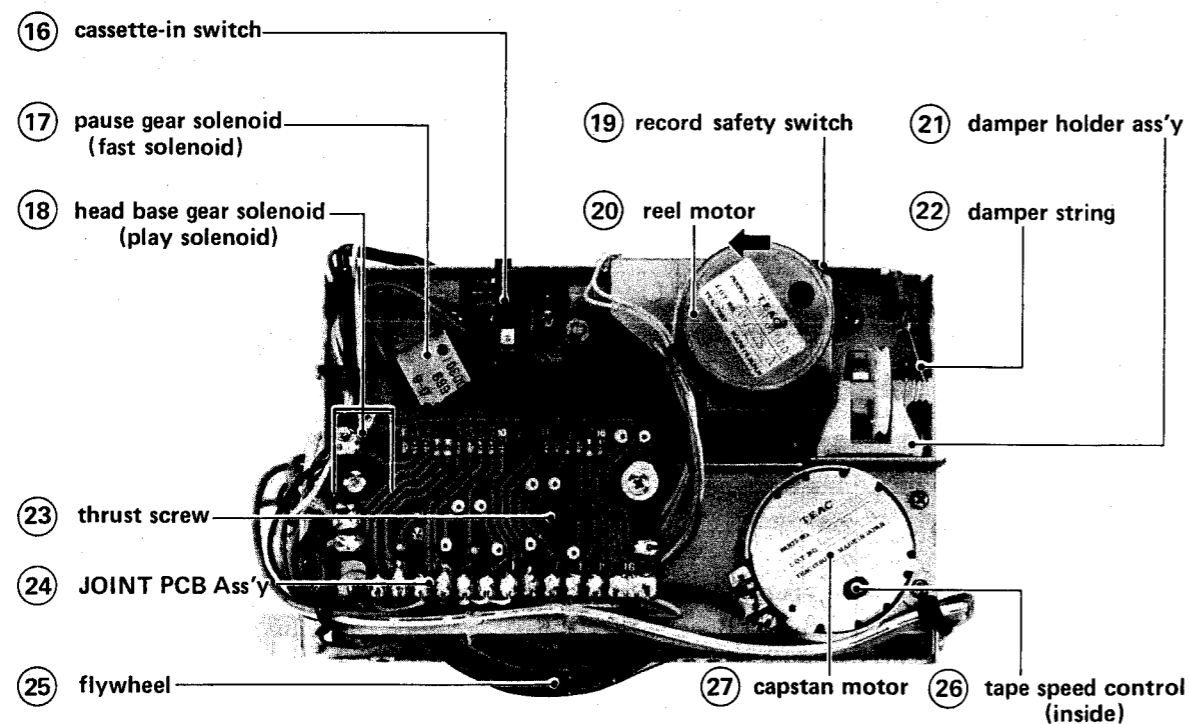

Fig. 4-2
1. Position the reel motor as far as possible in the direction shown by the arrow in Fig. 4-2.
3. Check that when pushing the gear link (4) towards the take-up reel table (10), gear D (6) moves 0.1 mm to 0.2 mm towards the reel table.
4. If not, adjust by positioning the adjust plate (13).